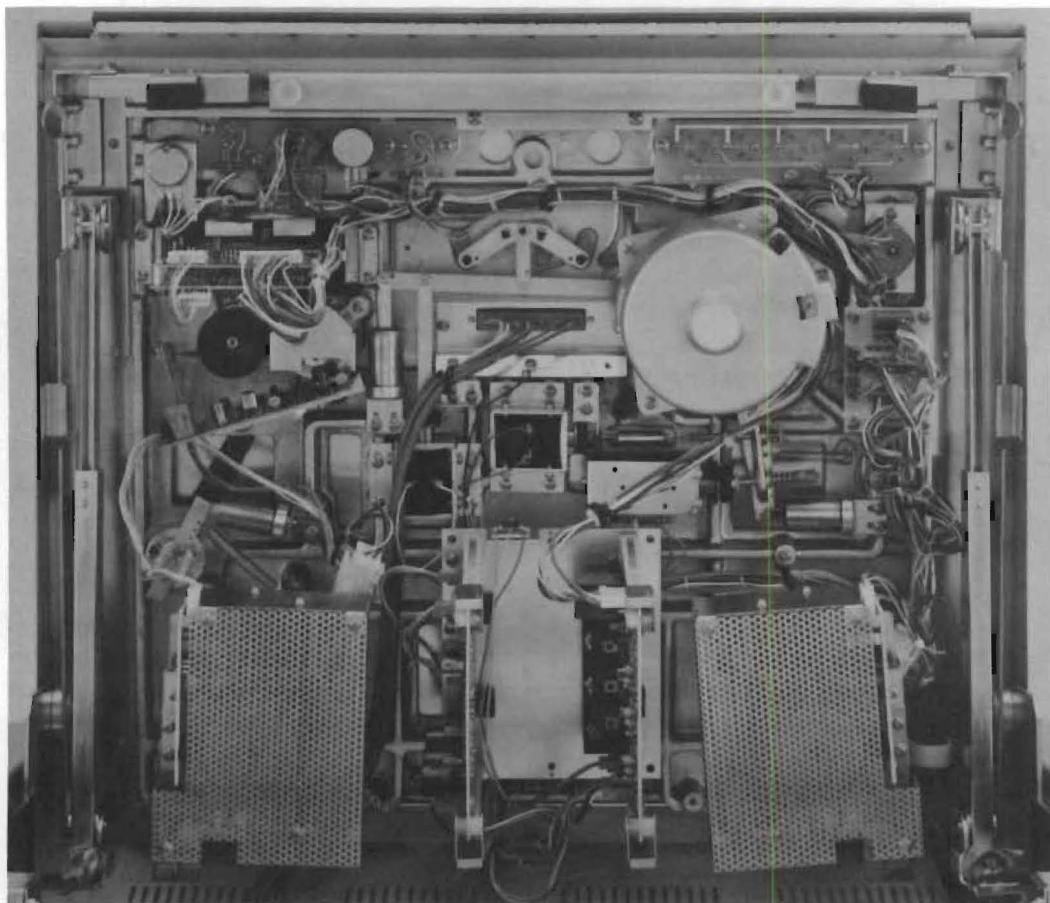

FIGURE 2-3. MAKE SURE THE CABLE CONNECTORS BENEATH THE TRANSPORT ARE SECURELY MATED TO THE CIRCUIT BOARD CONNECTORS
- B. Check the various connectors below the transport to be sure they are firmly mated: (Refer to figure 2-3.)